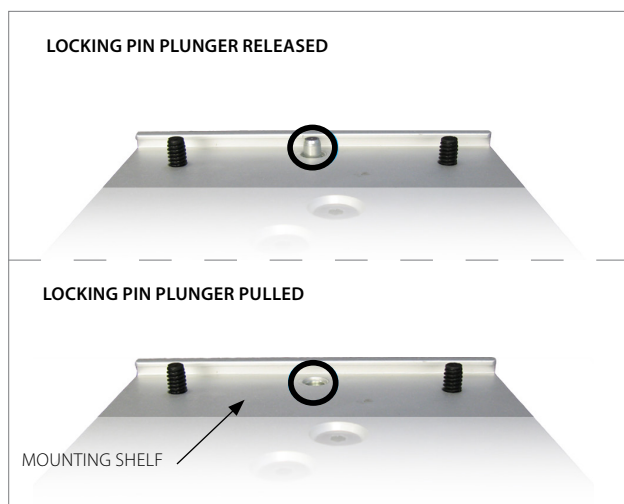

Figure 2
2. Loosen the 4x **PLASTIC SCREWS** on the bottom side of the **MOUNTING SHELF**. Pull down on the **LOCKING PIN** at the bottom of the **MOUNTING SHELF** and twist it to keep it open. Slide the **PHILIPS X3/MX100 MOUNTING PLATE** laterally onto the **MOUNTING SHELF** until the **LOCKING PIN** aligns with the clearance hole at the front of the **MX100 MOUNTING PLATE** (Figure 2).